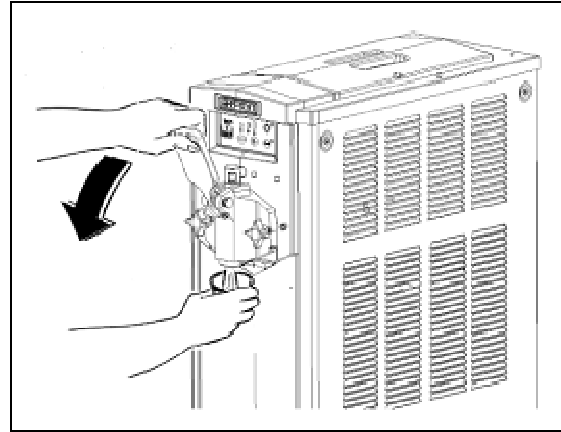

Fig. 1
**T**he machine has to be placed on a sturdy, horizontal surface making sure it is well ventilated by leaving a gap of 20 cm around it and do not install it near heat sources (fig.1); we recommend you to maintain a room temperature between 24 and 32°C.
- **F**ill the upper tank with lukewarm water and rinse the machine (fig.1) in order to flush it to remove the major part of the product residuals.
- **R**elief the cylinder pressure by slowly moving the tap handle until the pressure is completely discharged (fig. 1).